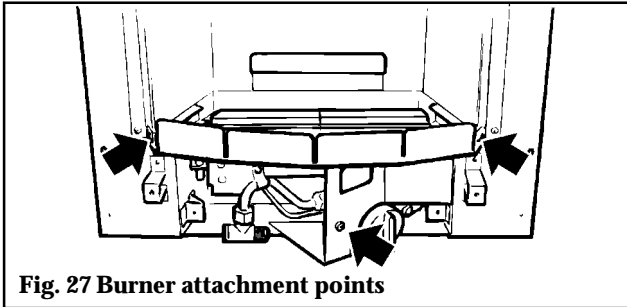

Fig. 27 Burner attachment points
12.3 TO REMOVE THE COMPLETE BURNER UNIT (See figure 27)